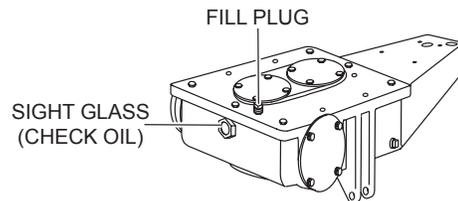

Figure 12. Checking and Refilling Gearbox Oil
1. Look into the sight glass at the rear of each gearbox to check the gearbox oil level (Figure 12). The oil level should be at the halfway point of the sight glass.
2. If gearbox oil is low, unscrew the oil fill plug located on top of the gearbox (Figure 12), and refill the gearbox with ISO 220 A GMA GR 5 EP oil. The gearbox oil capacity is 4.26 liters (144 oz).